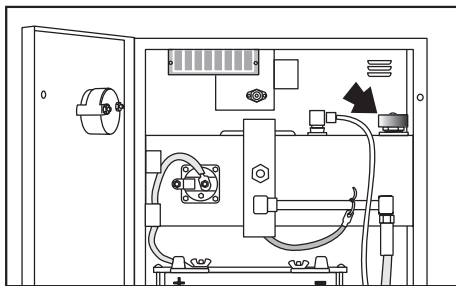

Figure 39
4. Locate the hydraulic reservoir filler cap in the top of the motor/pump assembly (Figure 39). Remove the cap.